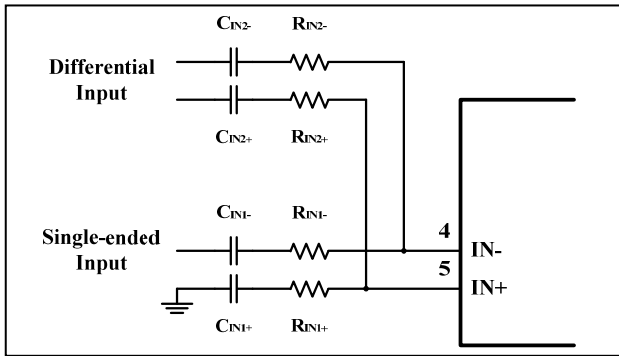

Figure 15 Application Circuit with Summing Differential Input and Single-Ended Input Signals
Figure 15 shows how to sum a differential input signal and a single-ended input signal. Ground noise may couple in through IN- with this method. It is better to use differential inputs. The corner frequency of the single-ended input is set by C_{IN2} , shown in equation (8). To assure that each input is balanced, the single-ended input must be driven by a low-impedance source even if the input is not in use.